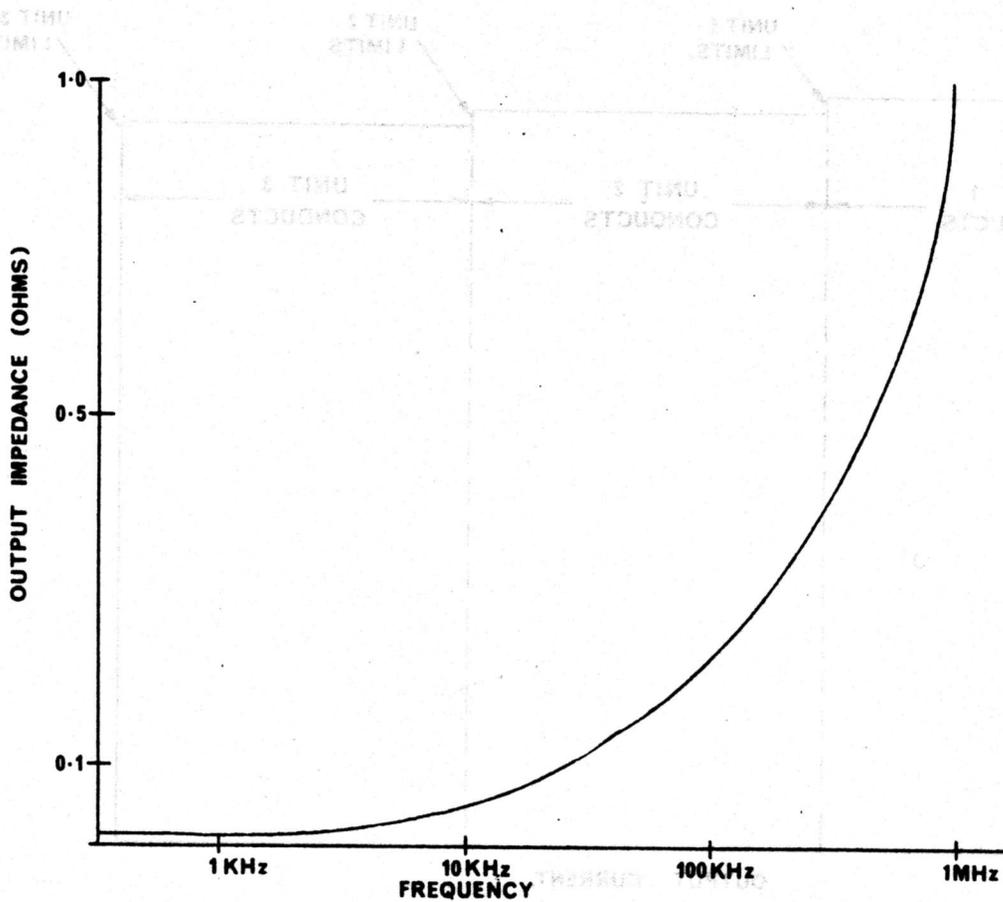

FIGURE 4 - TYPICAL OUTPUT IMPEDANCE VS FREQUENCY.
- (111) Output impedance - for alternating load superimposed on a steady load, the output impedance of the supply increases with frequency due to fall off in gain of the control amplifier, until eventually it is determined by the output capacitor and lead inductance. A typical output impedance/frequency curve is shown in figure 4. P.15.